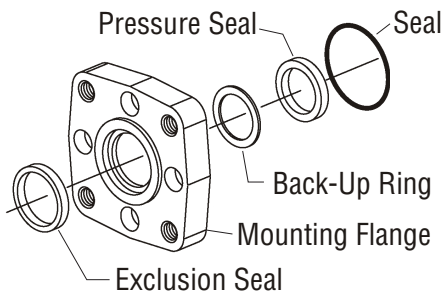

Figure 5-44, Mounting Flange Seals
7. The exclusion seal, back-up ring, pressure seal and seal will come off with the mounting flange (Figure 5-44).